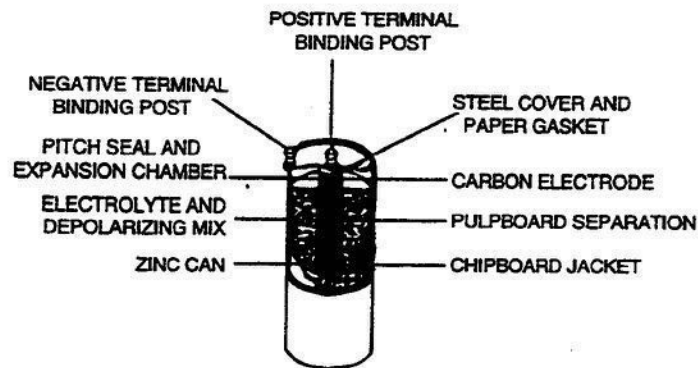

Figure 2-10. Construction of a dry cell.
**The dry cell.** This is a familiar device for producing an EMF by chemical means. The construction of a dry cell is shown in figure 2-10. The positive electrode or anode of the dry cell is a carbon rod located in the center of the zinc container that forms the negative electrode or cathode. Each dry cell has an EMF of about 1.5 volts, regardless of its physical size. A 6-volt dry-cell battery consists of four cells connected in series. To increase the current, one must connect the cells in parallel.